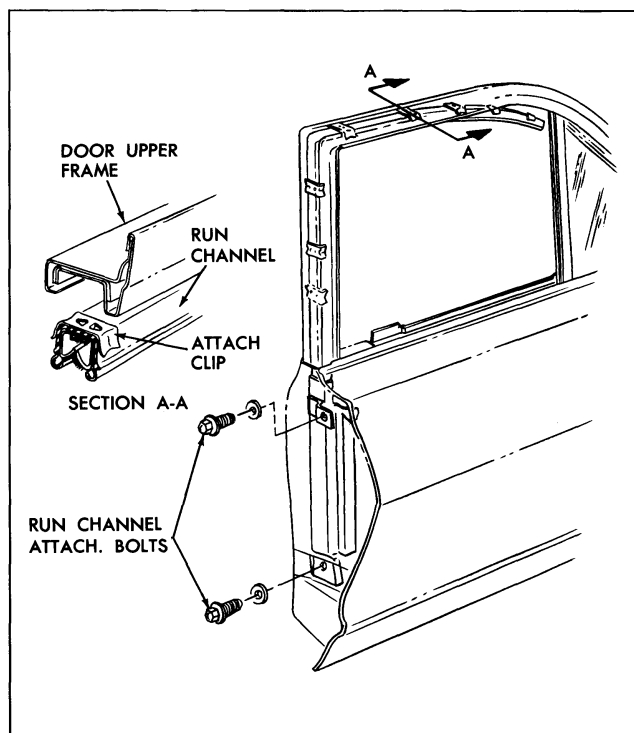

Fig. 3-38 Glass Run Channel
The door window travels in the ventilator division run channel at front edge of glass and in the glass run channel at rear edge of glass. The glass run channel is retained by two bolts at the front door lock pillar (below belt line) and by clips inserted into the door upper frame (Fig. 3-38)
3. Remove upper and lower bolts securing glass run channel to door lock pillar panel (Fig. 3-38).
*NOTE: Pressure should be exercised at the retaining clips shown in Fig. 3-38. Extreme care should be exercised during removal of run channel as this part is easily damaged by rough treatment.*
6. Once run channel has been removed from the door upper frame, it can be pulled straight up at the lock pillar panel and removed from door inboard of door upper frame (Fig. 3-38).